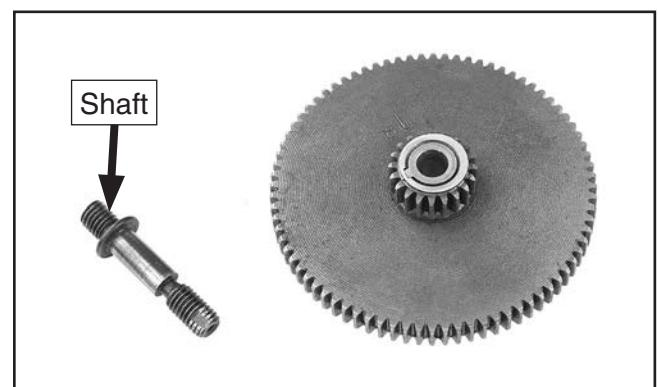

Figure 79. Shaft removed from 20T/80T gear.
11. Remove gear shaft from middle C/D (20T/80T) gear (see **Figure 79**).